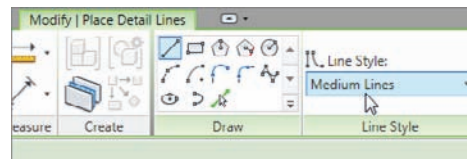

FIGURE 12.47 Select the Medium Lines choice in the Lines Style menu.
3. In the Line Style menu, select Medium Lines, as shown in Figure 12.47.